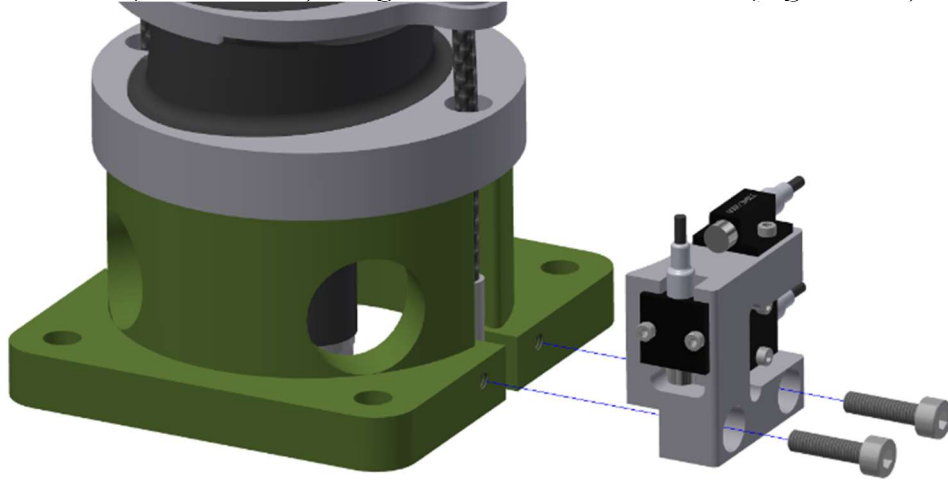

Figure 4-38. Secure the T1 Accel Mount (SA572-S168) to the rear of the Lower Neck Load Cell (SA572-S106)
- 4.3.8 Secure the T1 Accel Mount (SA572-S168) to the rear of the Lower Neck Load Cell (SA572-S106) using two M3 X 0.5 X 12 SHCS (Figure 4-38).